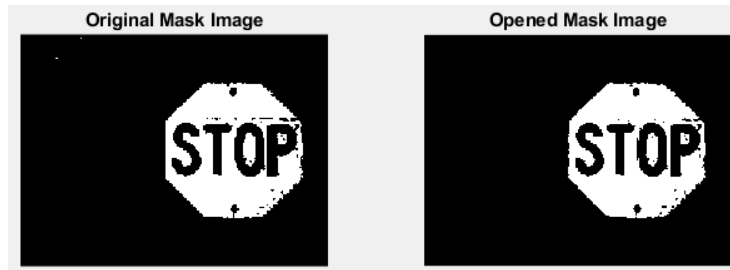

Figure 6: Opened mask image
1. Further steps can be taken to improve the identification of only the red parts of the traffic sign. First, any connected areas in the mask with a total number of pixels below a certain threshold can be removed, using the function “bwareaopen”. Try removing all of the white areas with fewer than 100 pixels and plot the resulting mask. Adjust the minimum area as needed to obtain the best result. In the example in Figure 6, you can see that opening the image removed the small white specks in the background of the original mask image.